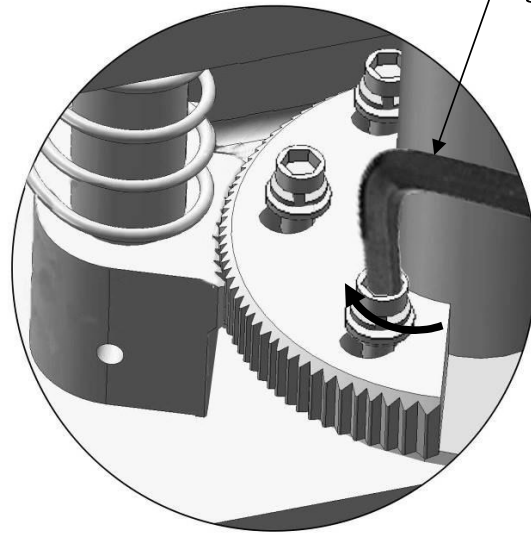

Fig. 26
4. Adjust the moon gear and arm lock to make it to be meshed, then tighten bolts of arm lock (See Fig. 26).